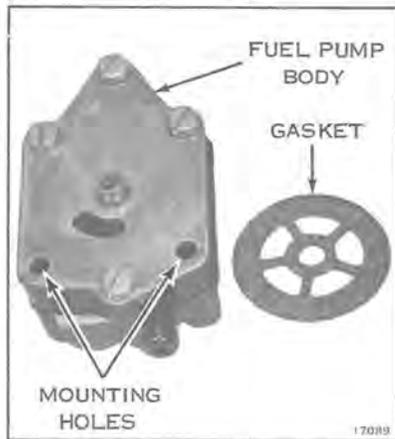
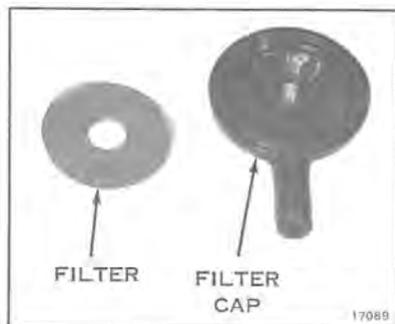

Figure 6-10
Figure 6-11
- a. Disconnect two hoses from fuel pump and filter assembly (see Figure 6-10).
- b. Remove two screws attaching pump and filter assembly to mounting plate (see Figure 6-10), and remove pump and filter assembly. NOTE: Filter assembly may be removed for cleaning and inspection without removing pump assembly by removing filter cap screw (see Figure 6-11).